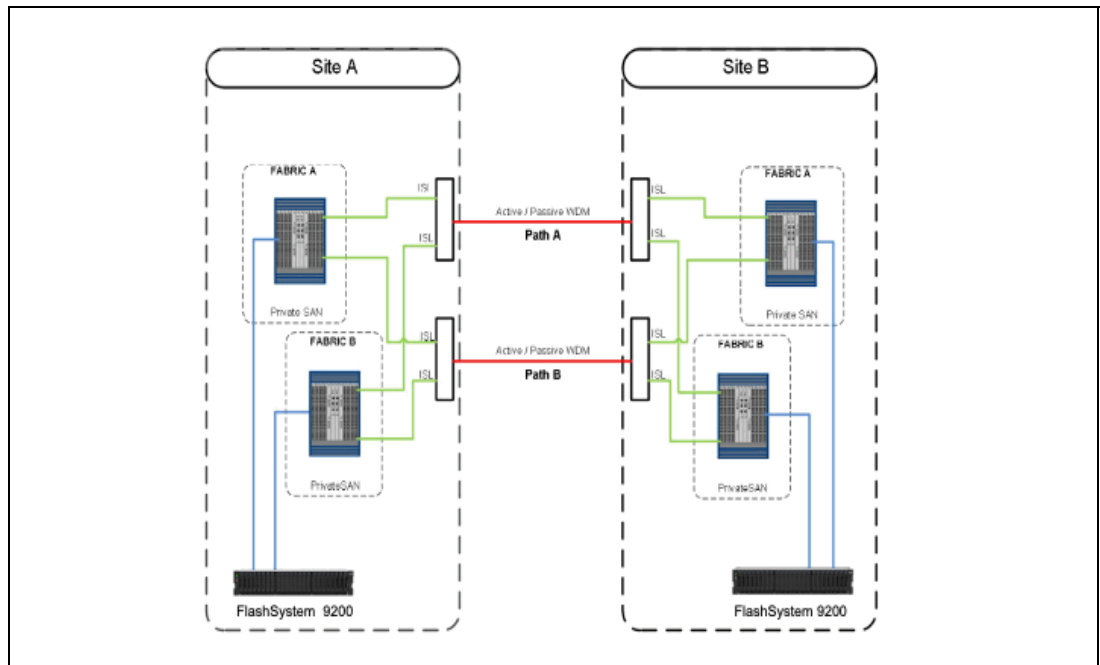

Figure 2-17 Configuration 1: Physical Paths Shared Among Fabrics
- ▶ In Configuration 1, shown in Figure 2-17, one ISL per fabric is attached to each DWDM. In this case, the physical paths Path A and Path B are used to extend both fabrics.